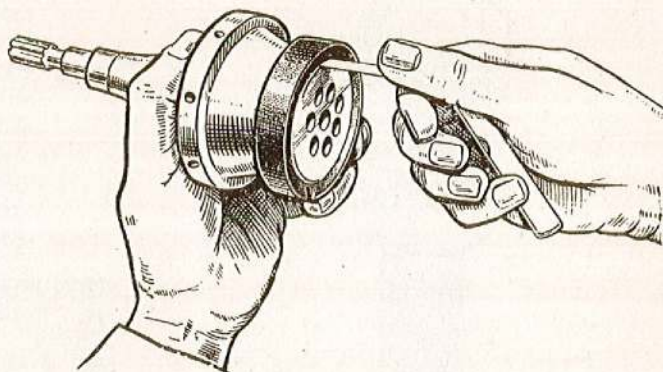

Fig. 15. Checking clearance between the carbon ring and rotor bearing face
8. Ensure that the diametral clearance between the carbon ring and the rotor bearing face is between 0.003 in. and 0.005 in. This is measured by placing the carbon ring on the rotor and inserting a feeler gauge between ring and bearing face as shown in fig. 15.